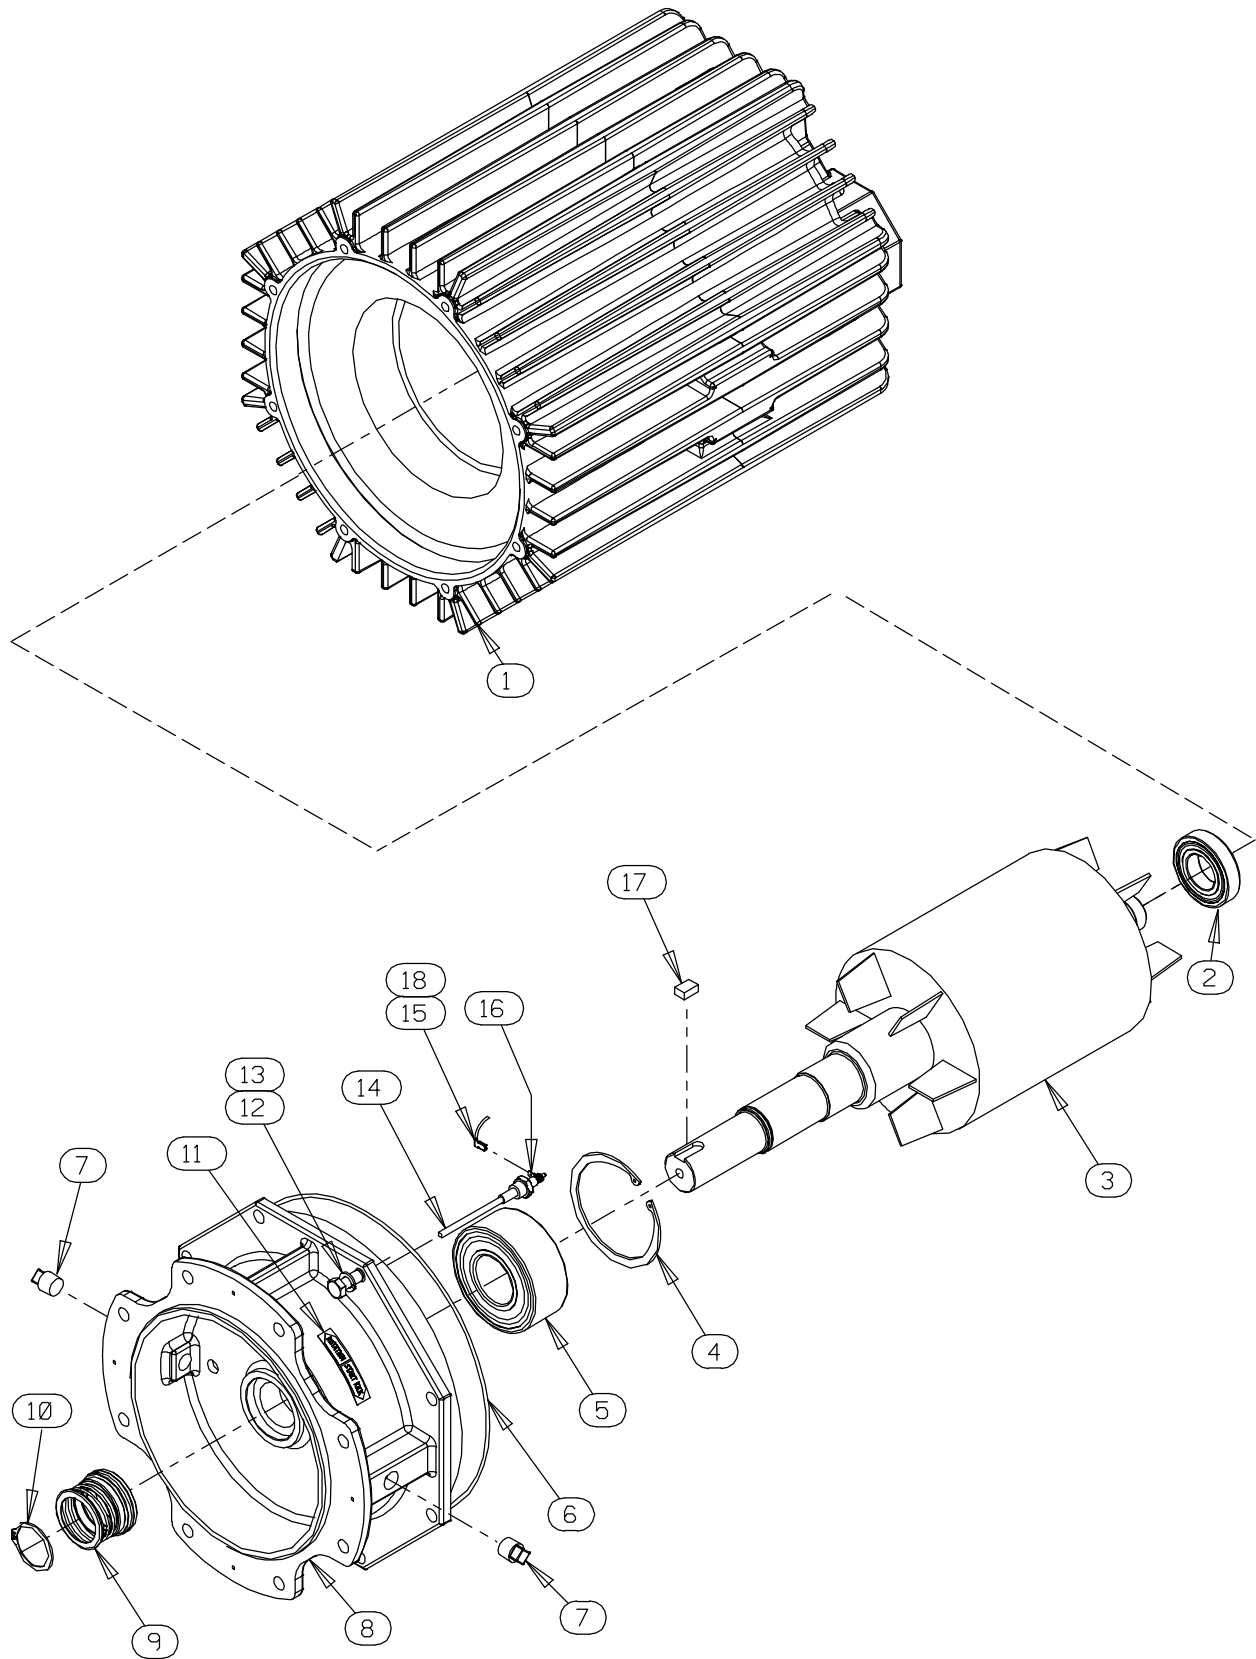

Figure E-2. Motor Assemblies
#### (Figure E-2)
To remove the impeller, use two thin-bladed screwdrivers positioned 180° apart to pry on the back of the impeller and “walk” the impeller off the shaft. Use increasingly larger screwdrivers (or wedges) as necessary. After the impeller comes free of the shaft, retain the impeller key (17, Figure E-2).
*An alternate method of removing the stationary element is to remove the screws (26) securing the seal plate (24) to the motor assembly (12). Pry the assembled seal plate and stationary element off the shoulder of the intermediate (8, Figure E-2). Remove the O-ring (11) and press the stationary element and seat out of the seal plate from the back side.*
#### (Figures E-2 and E-3)